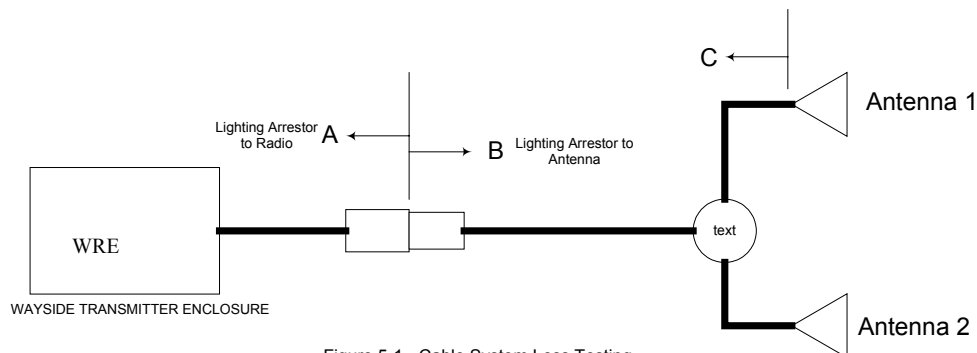

Figure 5-1 - Cable System Loss Testing
1. RF coaxial cable tests - this test will be performed using the Anritsu Site Master 251C Antenna & Cable Analyzer. The Anritsu 251C will be used to measure power output at point "A". This reading will be recorded in the WRE Power Output column of the Test Record Form in Annex TR and will use the Power Meter Function of the Anritsu 251C. The Anritsu 251C will also be used to measure reflected power in the cable system between the lightning arrester to the antenna ("B" to "C"). This reading will be recorded in the Cable Reflected Power Loss column of the Test Record Form in Annex TR. These tests will be as per Figure 5.1 & 5.2 below and are indicators of overall system quality. Shown is a dual and quad antenna array, but any configuration shown in the annexes can be used.